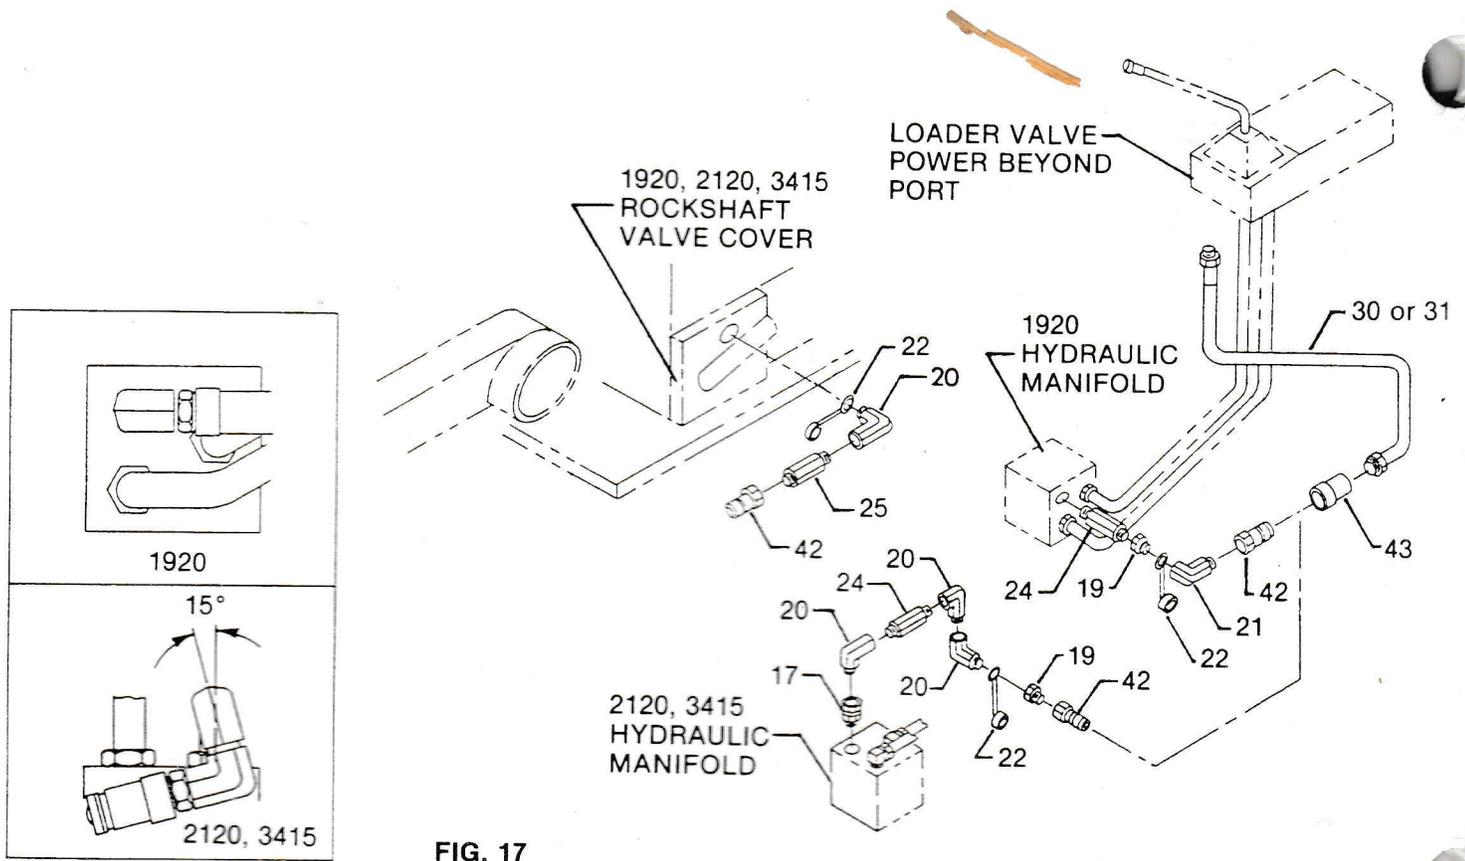

FIG. 17
9. Couple hose (30 or 31) at tractor hydraulic manifold, and install dust cap (22) at tractor axle as shown in Fig. 17 to prevent entry of dirt.
PARTS LIST — FIGURES 17 AND 18